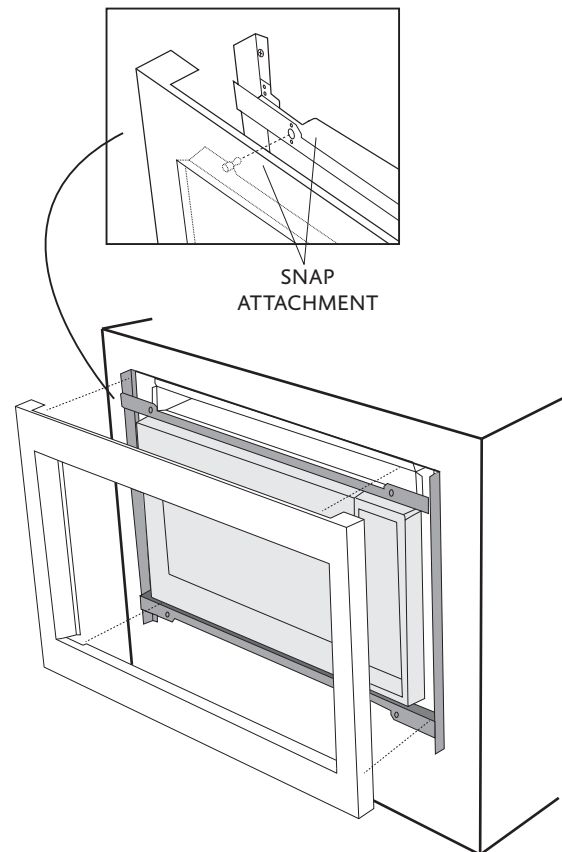

Figure 13
- Place the FRONT FRAME (J) onto the BACK FRAME (K) and align ball studs and receivers.
- Secure the FRONT FRAME to the BACK FRAME by firmly pushing the front frame onto the back frame engaging the four (4) snap attachments. See Figure 13.